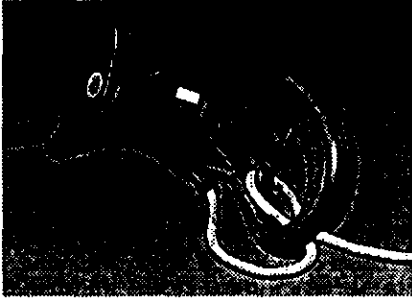

Fig. 9
3. Place the loop into the groove at the end of the rear handle and lock into place as shown in Figure 9.